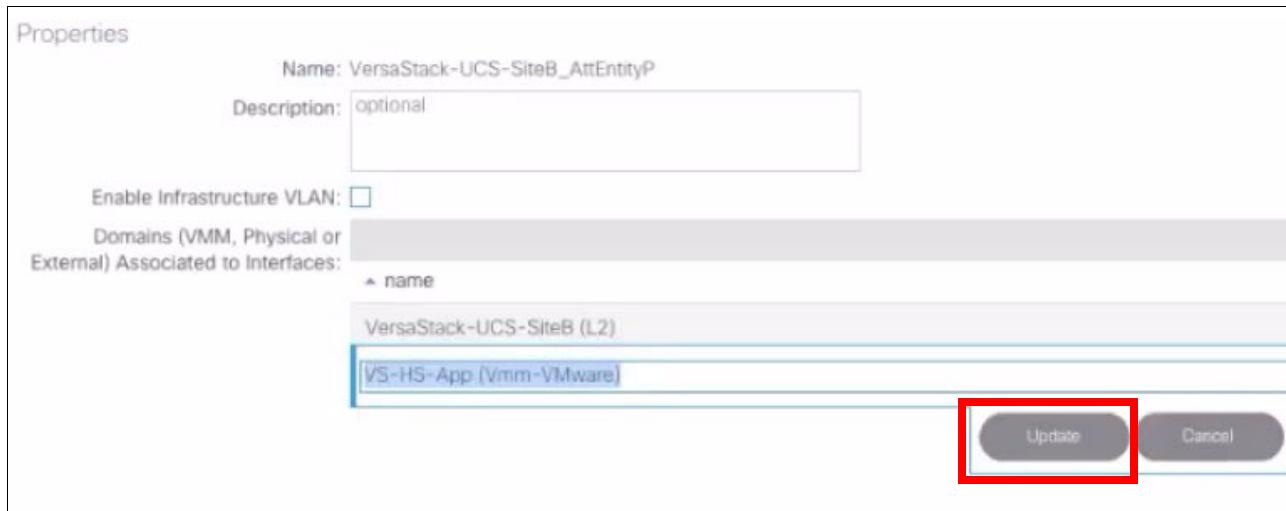

Figure 4-27 Click Update
- Click **Update** to add the VMM, as shown in Figure 4-27.